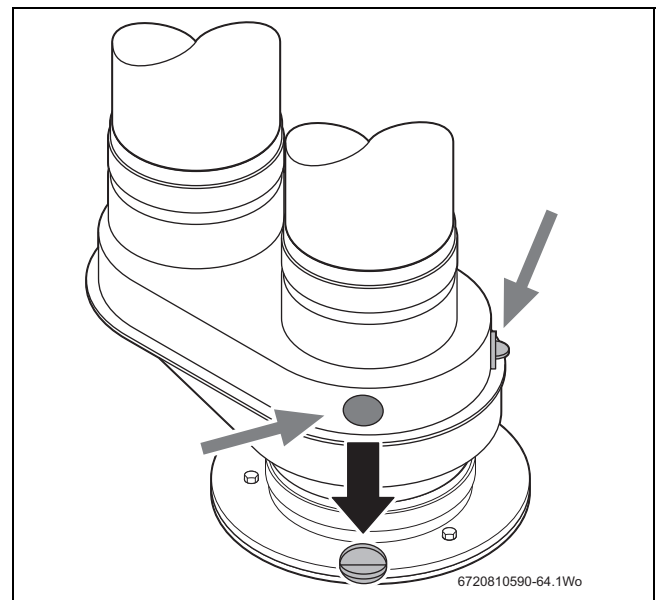

Fig. 75 Open one of the flue gas test ports
- ▶ Open one of the flue gas test ports (→ Fig. 75).